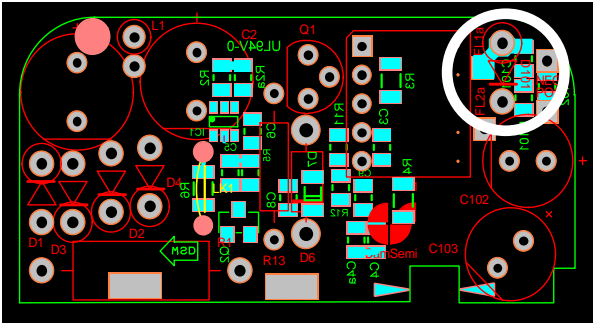

Figure 11: Transformer to Output Diode Path
The path from the transformer to the output diode (as shown in Figure 11) needs to be as short as possible, and use the minimum copper area. This connection is an AC voltage, so needs to be short to control radiated EMI.
- TX to Output Diode Path - Figure 11